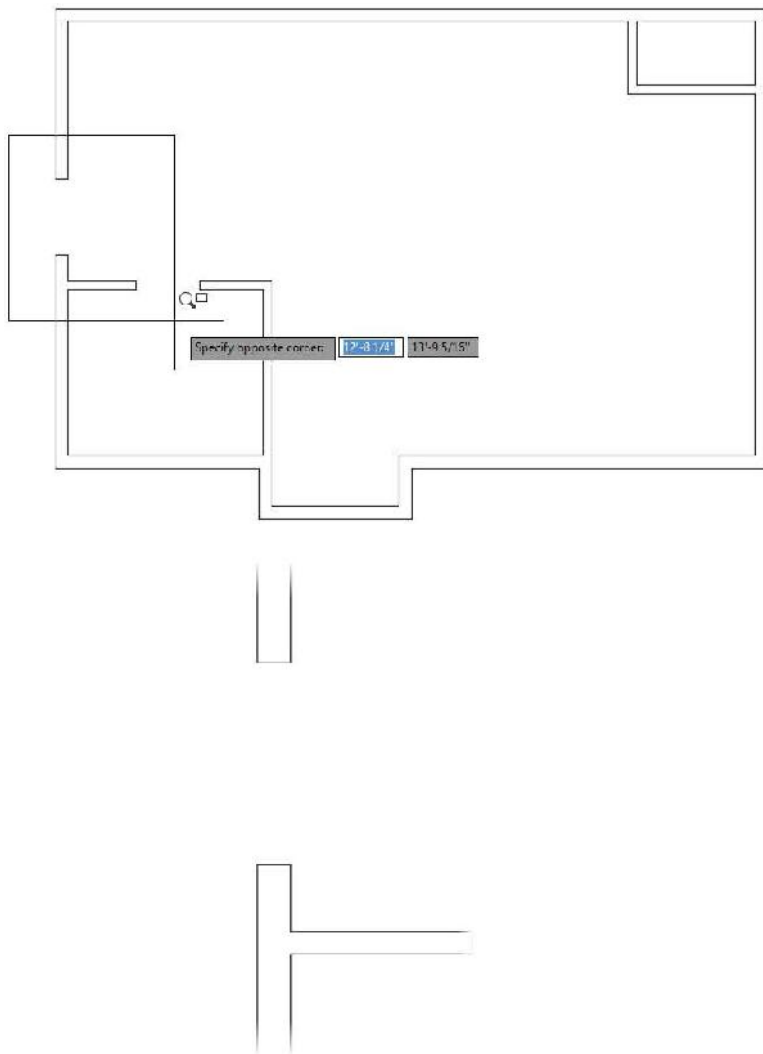

FIGURE 4.41: Forming a zoom window at the back door opening (top), and the result (bottom)
7. Pick two points to form a window around the back doorway opening, as shown in Figure 4.41 (top).
The view changes, and you now have a close-up view of the opening (see Figure 4.41, bottom). You'll draw the door in a closed position and then rotate it open.